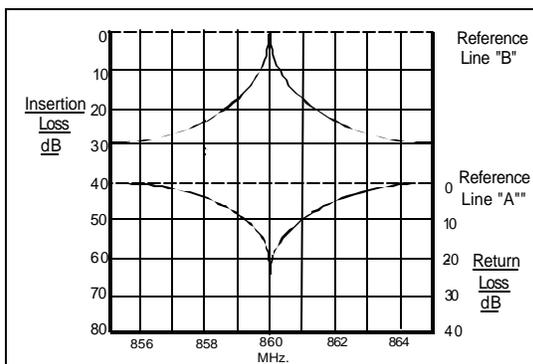
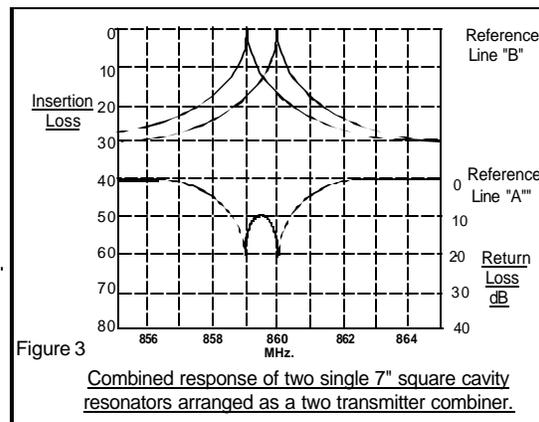

Figure 2 Response of single 7" square cavity
Figure 3
The throughput response and return loss of a typical 7" square or 8" round 3TEM(1) band pass cavity is shown in Figure 2. The cavity was adjusted for 1.2 dB loss. Note that at 1 MHz above or below the 860 MHz. frequency the cavity rejects signals by about 17 dB.
In Figure 3 we have superimposed a second filter system response over that in Figure 2, displaced by 1 MHz. Note that 17 dB of rejection is provided for both signals and that